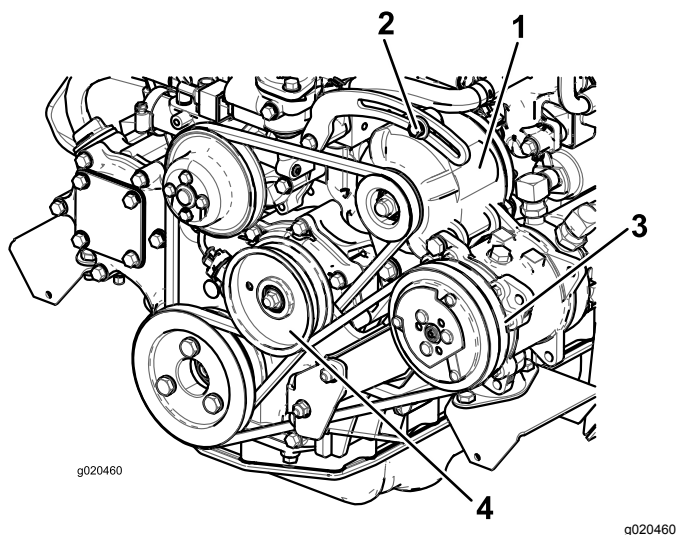

Figure 74
If the deflection is not 10 mm (3/8 inch), loosen the alternator-mounting bolts (Figure 74).
2. If the deflection is not 10 mm (3/8 inch), loosen the idler pulley mounting bolt (Figure 74).